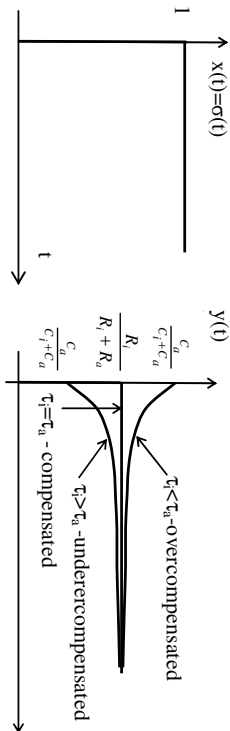

Fig. 10. The response of the attenuator.
In Fig.10, the response of the attenuator is presented, in three cases (compensated attenuator, over-compensated attenuator, and under-compensated attenuator).
a) Adjust the variable capacitor with the screwdriver so that the attenuator is compensated (on the display, you must obtain undistorted rectangular signal - see Fig. 10). Calculate the attenuation of the signal on the oscilloscope, calculating the ratio between the amplitude of the input signal, and the amplitude measured on the display of the scope, after passing through the attenuator. Calculate the attenuation, from expression (25). Since R_B has a very small value, comparing to the oscilloscope's input resistor R_i , the value of the resistor of the scope can be neglected, when calculating the attenuation.
c) Adjust the variable capacitor C_{i0} , so that on the display of the scope, the overshoot caused by the overcompensation, is at least of one division. Measure the value of the overshoot. Calculate the value of the overshoot, with the relation specified on the graphical representation of the response of the attenuator at rectangular signal (see Fig. 10). Compare it with the measured value. Draw the image, in the case of overshoot.